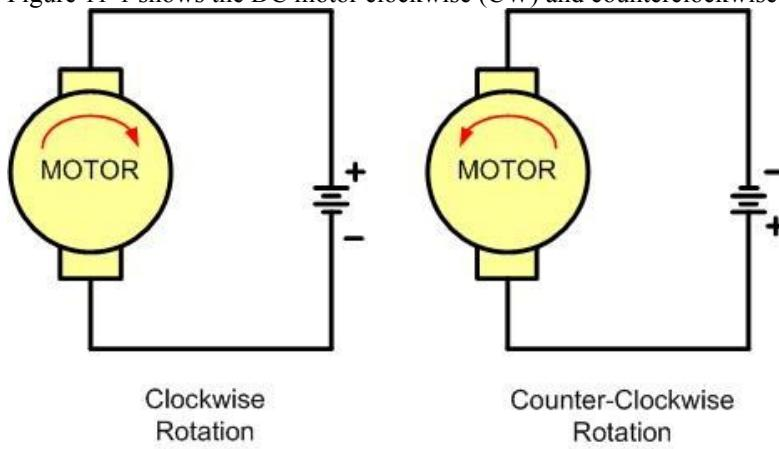

Figure 11-1: DC Motor Rotation
Figure 11-1 shows the DC motor clockwise (CW) and counterclockwise (CCW) rotations.